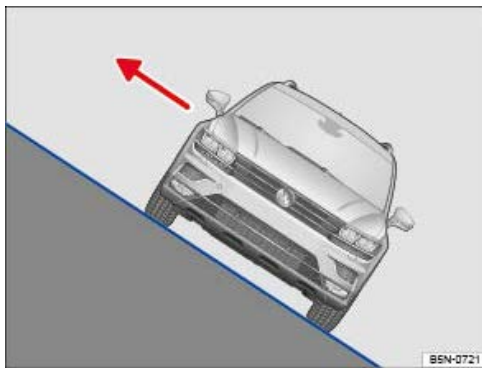

Fig. 149 On steep slopes, you should always use the doors pointing up the hill to get out of the vehicle.
- Vehicle occupants should never leave the vehicle via the doors facing down the hill when parked sideways on a steep hill. This could cause the centre of gravity to move. The vehicle could otherwise tip over or roll over and roll down the hill. To avoid this, always leave the vehicle carefully on the side that is facing uphill → Fig. 149.